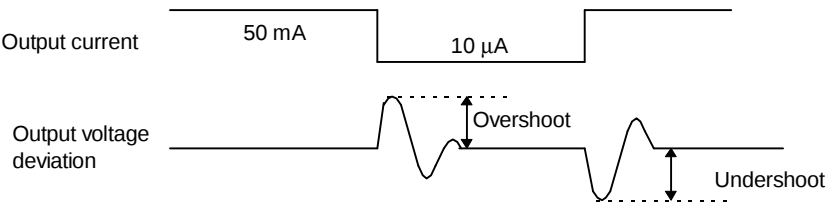
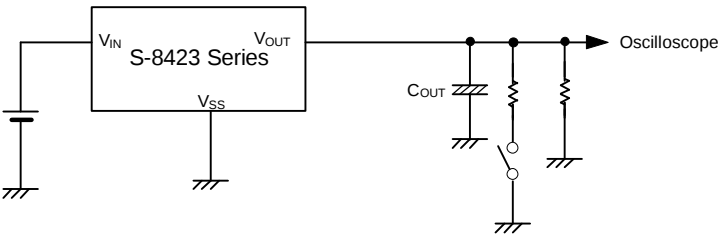

Figure 14
Figure 15 Measuring circuit
- The overshoot and undershoot are caused in the output voltage if the output current fluctuates between 10 μ A and 50 mA (between 10 μ A and 30 mA at the V_{RO} pin) while the input voltage is constant. Figure 14 shows the output voltage fluctuation due to change of output current. Figure 15 shows the measuring circuit for reference. The latter half of this section describes ringing waveform and parameter dependency.